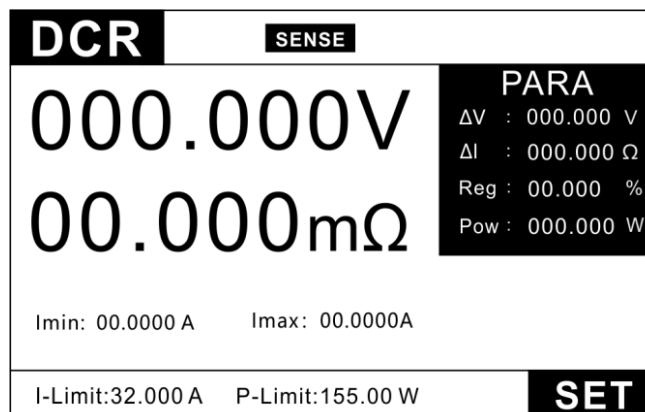

Figure 3.32 DCR Model Test Interface
1. Press **MODE** to enter the mode selection page, press up and down key selection DCR, press **ENTER** key to enter the DCR test interface figure 3.32.
2. Figure 3.32 under the DCR interface, press **SET** to enter the setup interface figure 3.33.